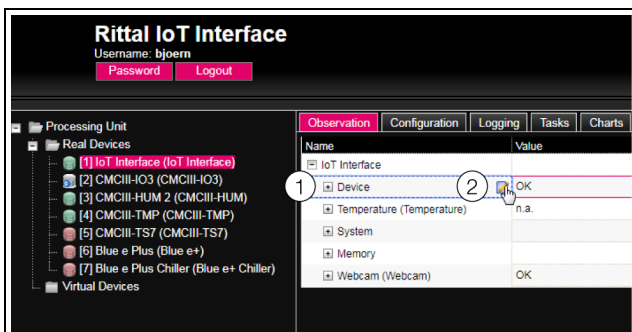

Fig. 25: Selecting several parameters
- Expand the "IoT interface" entry by clicking the "plus" character in front of this entry (fig. 25, item 1).
- Place the mouse cursor at the end of the first column in the "Device" row (fig. 25, item 2). An "edit" symbol appears and the mouse cursor changes to a "hand" symbol.